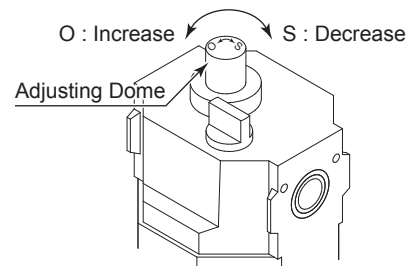

Fig. 5
(3) Adjustment of Oil Drip Rate (Fig. 5)
① Set the air pressure to the air motors recommended maximum air pressure.
② Adjust the Oil Drip Rate to the recommended volume which is 1 to 3 drops / min.
- (1) Supply air pressure to the Air Line Kit.
- (2) Press the Foot Control to start air motor rotation. Turn the Regulator Knob to adjust to the proper air pressure for the air motor.
- (3) Adjust the Oil Drip Rate to the recommended volume which is 1 to 3 drops / min (Refer to P19 " 8 - 3 (3) Adjustment of Oil Drip Rate (Fig. 5) " section).